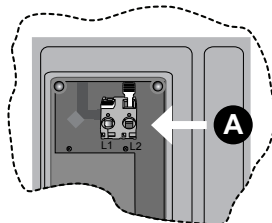

Figure 3
4. You will notice that lifting the lever opens the slot for the power wire, Figure 3. Insert the power wire into slot A as shown, Figure 4. Then put down the white lever and secure wire in place. Gently pull on wire after installation to verify it is clamped tightly into terminal.